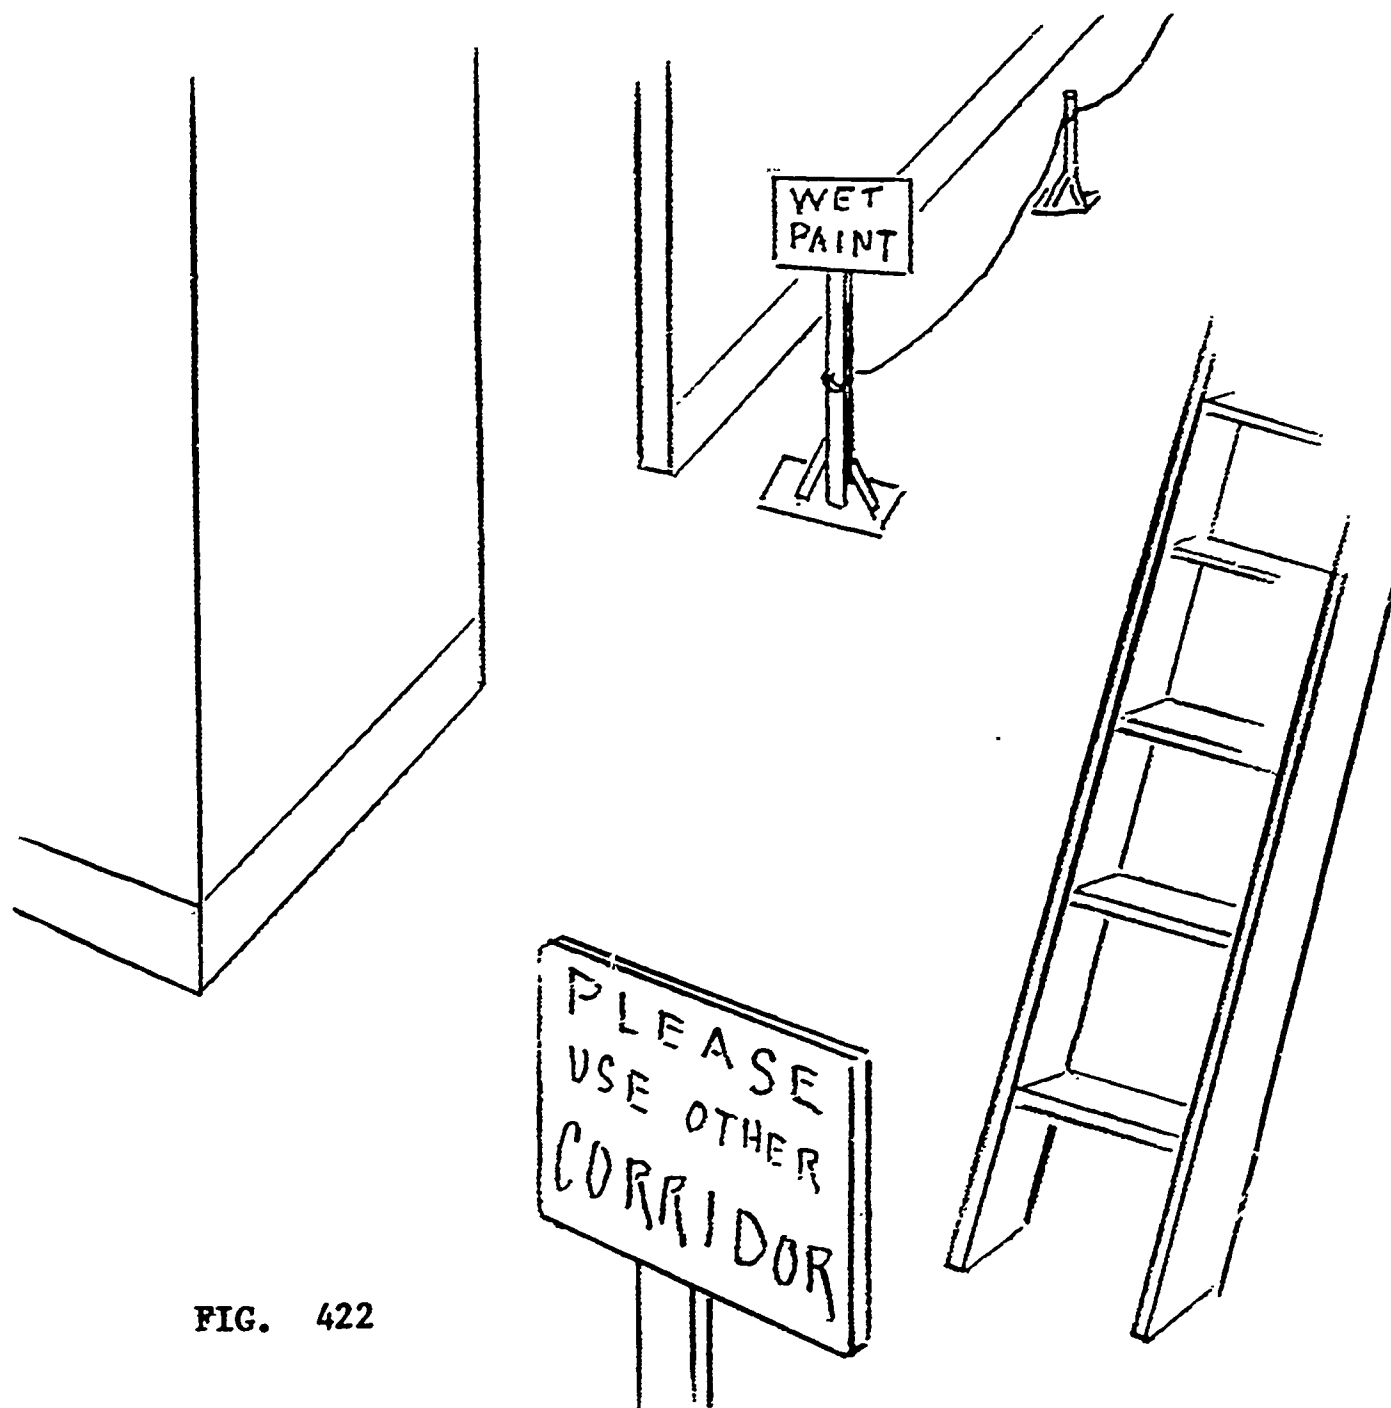

FIG. 422
9. During painting operation and until paint is dry, signs should be posted WET PAINT. See figure 422.